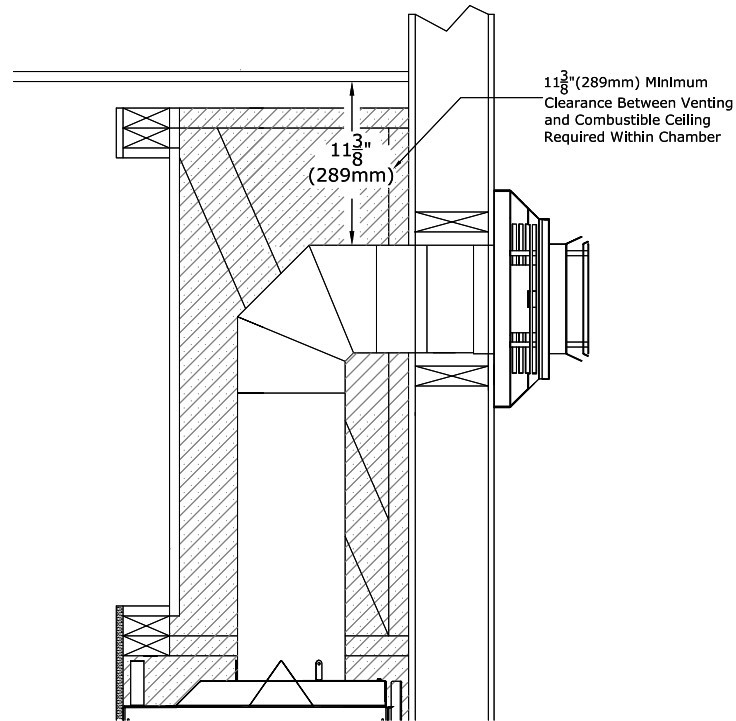
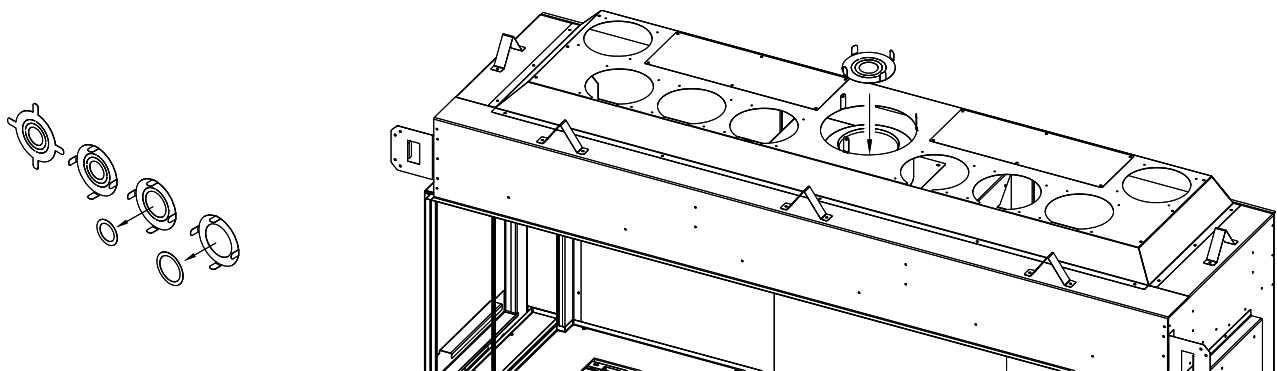

Figure 6.3 - Horizontal Vent Pipe Clearance Inside the Fireplace Enclosure
Figure 6.4 - Vent Restrictor Plate Installation
- Any horizontal pipe within the fireplace chamber must have a minimum clearance of 11-3/8" (289mm) from the top of the vent pipe to the chamber top. See Figure 6.3.
- The restrictor plate is shipped with all inner rings intact, and when installed, provides the most vent restriction. There are (2) inner rings that can be knocked out. As you knock out and remove an inner ring you have less vent restriction whereas removing both inner rings you will have the least amount of vent restriction.
- Follow Figure 6.4 for restrictor plate installation before attaching venting or through the firebox ceiling if venting is already attached. For vent restriction plate recommendations and adjustments, see section 10.2.3, Vent Restriction (after installation).
Figure 6.3 shows the minimum clearance the top of the vent pipe must maintain through the entire fireplace chamber. Figure 6.4 shows how to install the vent restrictor plate before vent pipe installation. Refer to Section 6.4.